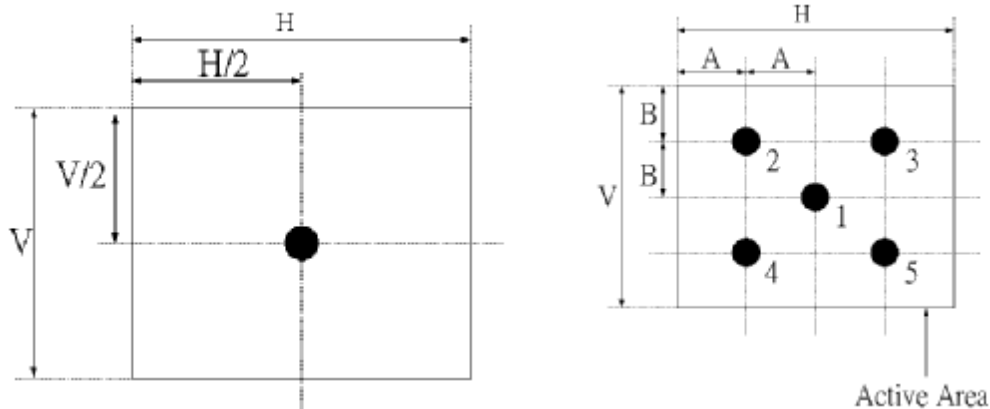

Fig.4-2 Optical measurement point
3. Surface luminance is luminance value at point 1 across the LCD surface 50cm from the surface with all pixels displaying white. From more information see FIG 4-2. When $I_{BL} = 6.5\text{mA}$, $L_{WH} = 400\text{cd/m}^2$ (typ.) $L_{WH} = L_{on1}$, Where L_{on1} is the luminance with all pixels displaying white at center 1 location.